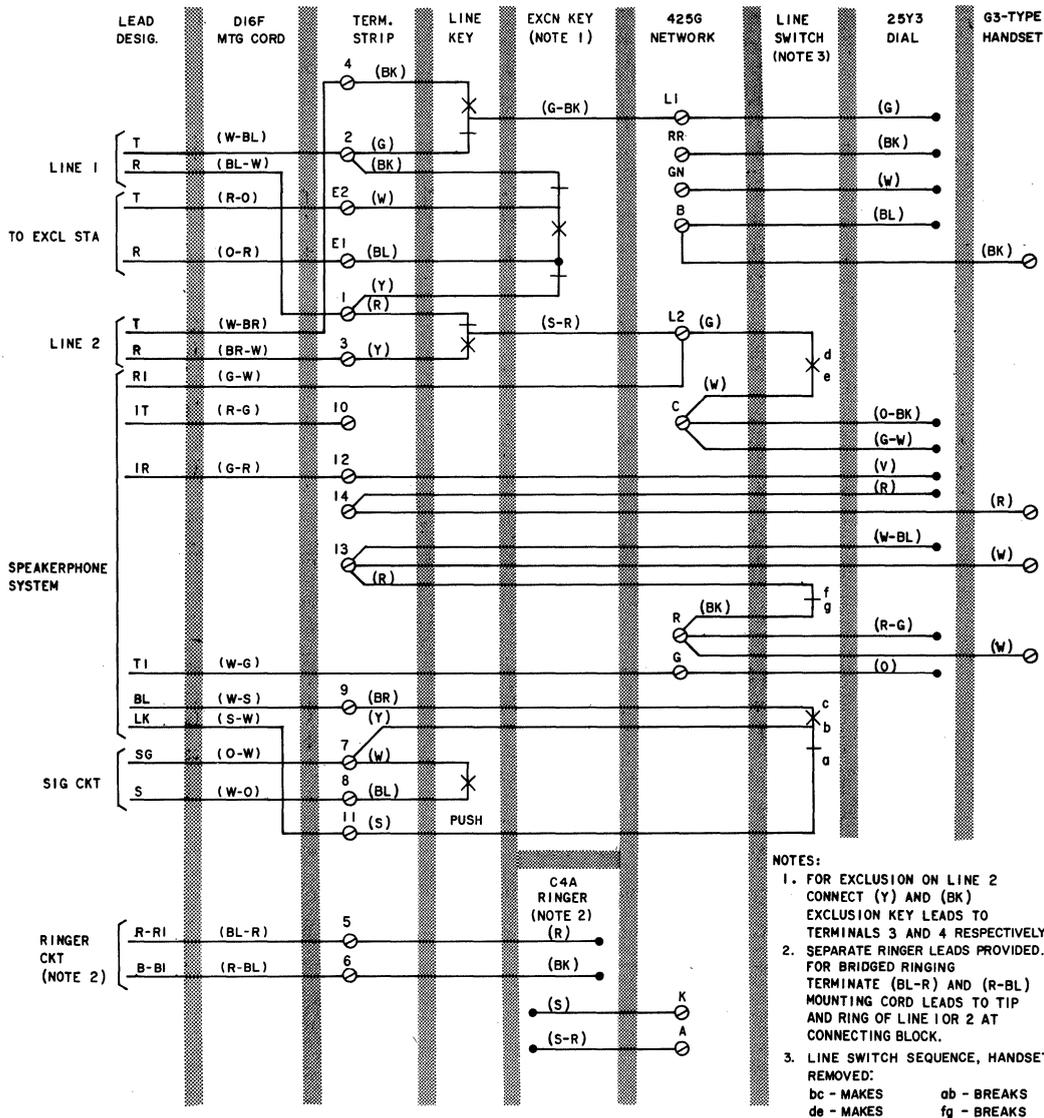

Fig. 1—1511D (MD) Telephone Set Connections, Equipped With 25Y3 (MD) Dial
1.01 Reissued to add nontechnical changes and MD information to Fig. 1, 2, and Table A.